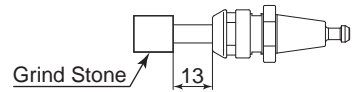

Fig. 18
- (1) The proper surface speed for general grindstones is 10 - 30m / s.
- (2) Do not exceed 13mm of overhang for mounted grindstones as shown in Fig. 18. If the overhang must exceed 13mm, reduce the motor speed in accordance with Table. 3.
- (3) Dress the grindstone prior to use.
- (4) Do not use cutting tools with bent or broken shanks, cracks or excessive run-out.
- (5) For grinding, the maximum depth of cut should not exceed 0.01mm radially or axially. Reciprocate the tool several times after each pass to eliminate tool pressure.
- (6) Always operate cutting tools within the allowable recommended speed of the cutting tools. Use of a cutting tool outside of the allowable speed of the cutting tools could cause damage to the Spindle and injury to the operator.
- (7) When replacing the tool, make sure the tool shank, collet, collet nut, and inner face of the collet holder are clean. If ground particles or metal chips stick to the inside of the collet, damage to the collet holder or Spindle can occur due to the loss of precision.
- (8) Do not strike or disassemble the Spindle.
- (9) Please set the cutting tools to minimize the overhang amount. 13mm is the maximum amount of overhang to maintain high accuracy and safety.